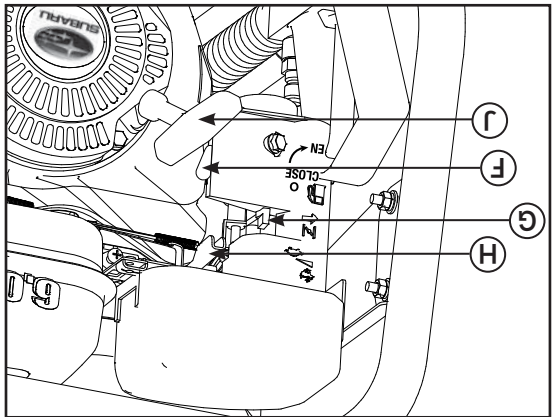

Figure 4
1. Turn down the fuel valve to open (F on figure 4).
2. Close the choke by moving the lever (G on figure 4) completely to the left.
3. Move the throttle lever (H on figure 4) from the right to 1/3 of the way to the left.
5. Pull the start grip (J on figure 4) lightly until resistance is felt, and then pull briskly. Do not allow the starter grip to snap back against the engine. Return it gently to prevent damage to the starter.
6. As engine warms, gradually open the choke by moving the lever (G on figure 4) to the right.
8. Move the throttle lever (H on figure 4) completely to the left, to full throttle.